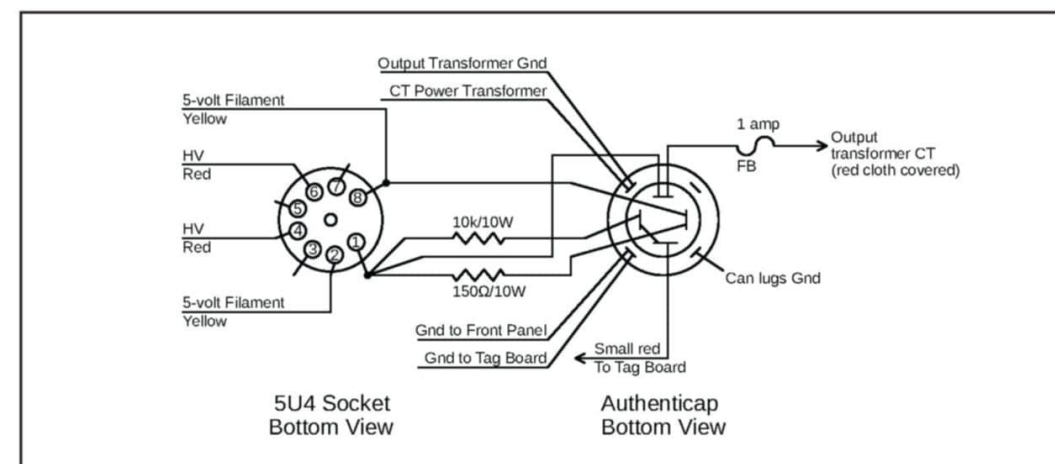

Figure 1: New capacitor wiring. Before you reconnect the power resistors, you wire the rest of the can.
Before you reconnect the power resistors, you are going to wire the rest of the can. Please refer to **Figure 1**. Connect a wire from pin 1 of the rectifier tube socket (no solder) the other end connects to the 80 mfd section of the can. (NS) Connect a wire (6" to 8" is fine) from the 80 mfd lug. Solder these two wires to the lug now. This wire you connected should run around back of chassis for the output current transformer (CT) fuse for added protection. (Please refer to the improvement section of the article.) Connect the 10 kΩ 10 W resistor. (I always replace the power resistors both for appearance and reliability.)